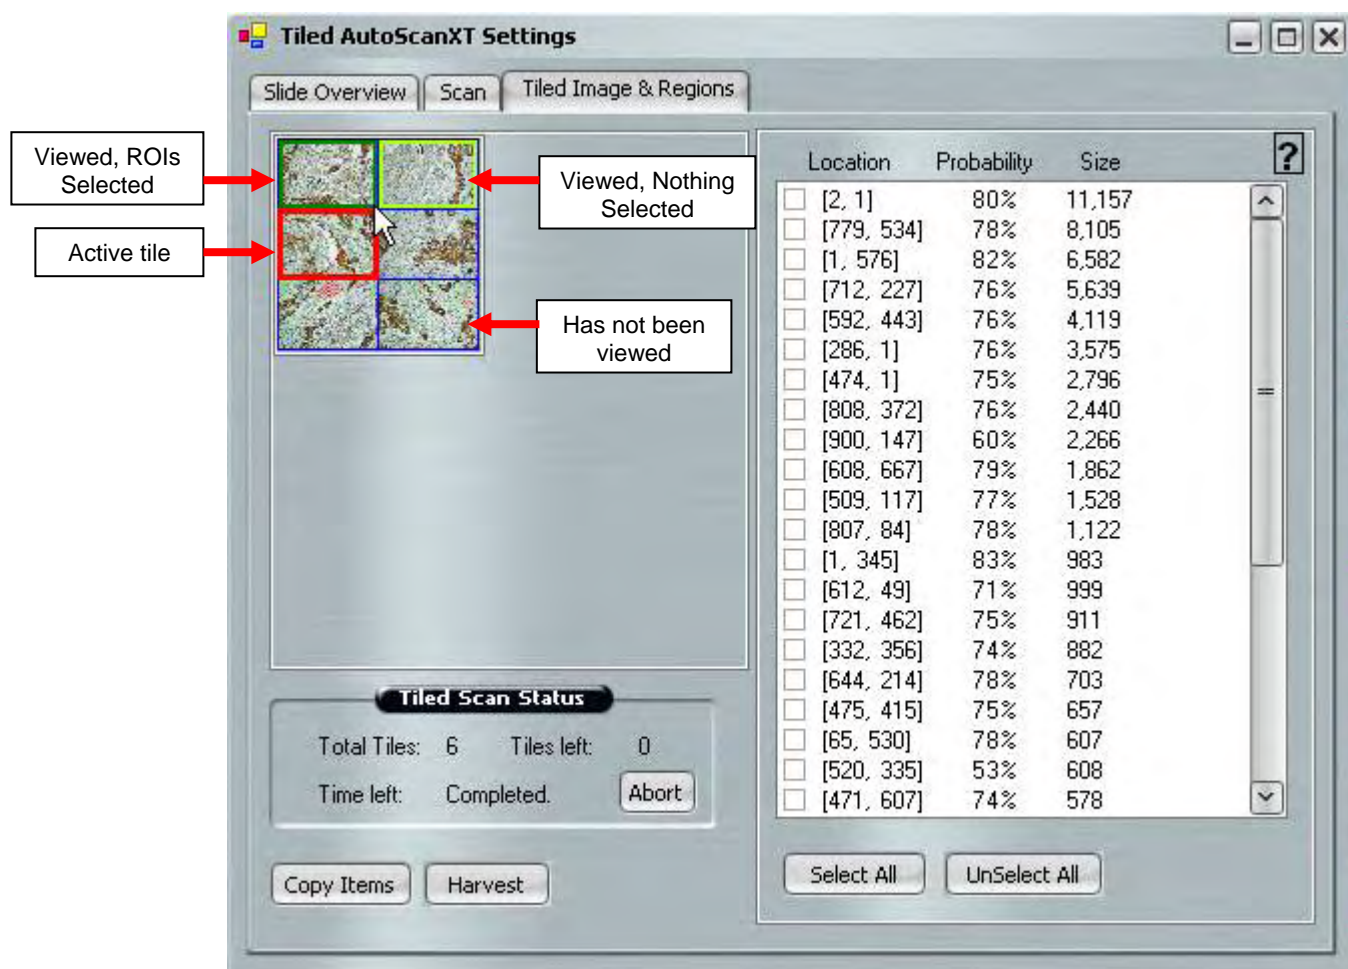

Figure 15. Tiles Images and Regions
9. Click on any tile to review the ROIs for microdissection. The tiles will be color-coded based on the review status (Figure 15).